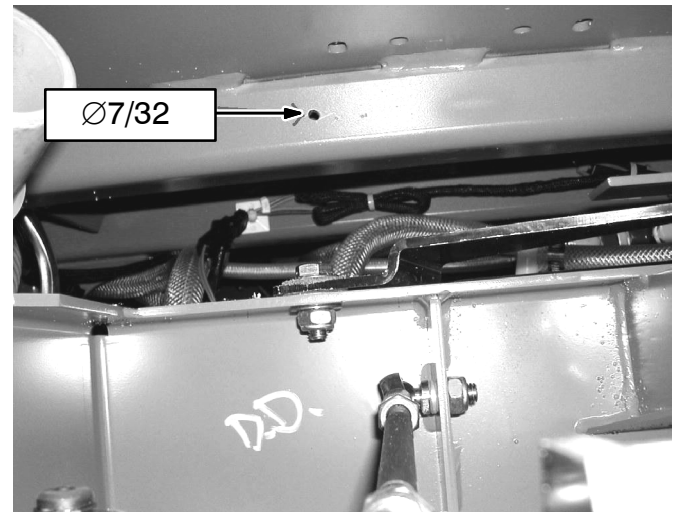

FIG. 4
(Refer to FIG. 4 thru 6, 9)
1. Using the dimensions shown in FIG. 4 for reference, mark and drill a 7/32 hole in the support tube. Tap the hole, or use a thread rolling screw, when installing the bracket. (Refer to FIG. 4 and 9)